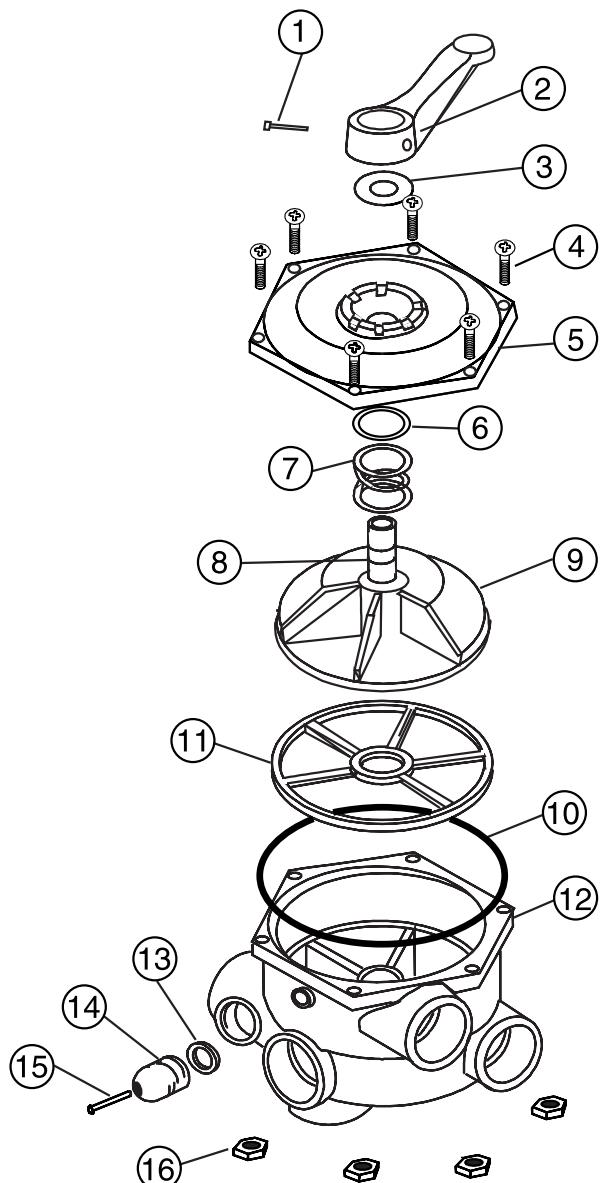

Figure 2. Replacement Parts Breakdown
7. **"Blank" position** - This notch does not have any written identification on the label. It is identified in Figure 2, by the note "To Remove Handle Screw". With the handle, item no. 2 in this position, you can remove the handle holding screw, item no. 1, for replacement.
- B. Water is leaking around rotor shaft - rotor seals need to be replaced, refer to Figure 2.